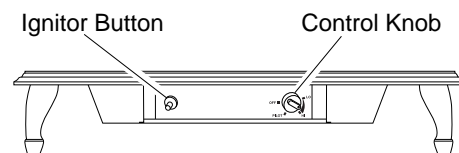

Figure 29 - Control Knob and Ignitor Button Location
4. Wait five (5) minutes to clear out any gas. Then smell for gas, including near the floor. If you smell gas, STOP! Follow "B" in the safety information on page 14, column 1. If you don't smell gas, go to the next step.
5. Slightly depress and turn control knob counterclockwise to the PILOT position. Keep control knob pressed in for five (5) seconds (see Figure 29).